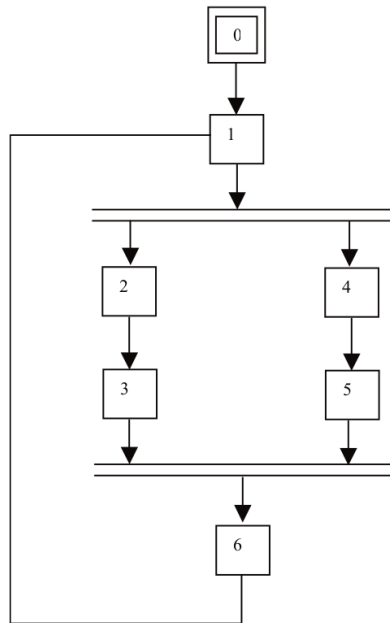

Figure 1: GRAFCET to be made using Ladder diagram.
**Exercice 2.** Using ladder diagrams construct the problem for a GRAFCET shown on Figure 1: Choose inputs and actions freely.